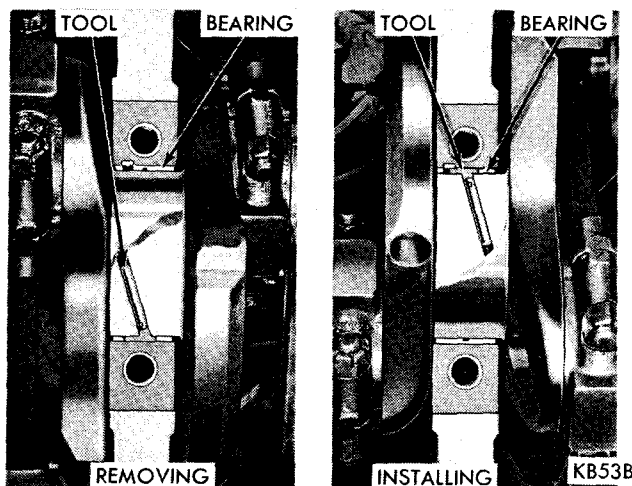

Fig. 45—Removing or Installing Upper Main Bearing
(1) Remove oil pan and identify bearing caps before removal.
(2) Remove bearing caps one at a time. Remove upper half of bearing by inserting Tool C-3059 (Fig. 45) into oil hole of crankshaft.
(3) Slowly rotate crankshaft clockwise, forcing out upper half of bearing.
(1) Start bearing in place, and insert Tool C-3059 into oil hole of crankshaft (Fig. 45).
(2) Slowly rotate crankshaft counterclockwise sliding the bearing into position. Remove Tool C-3059.